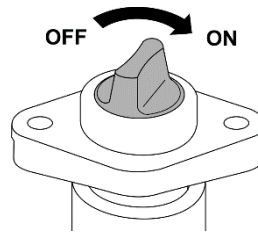

FIGURE 4.22 Main switch of control panel
- To switch on power supply of control panel, turn main switch (FIGURE 4.22) clockwise to (ON) position - switched on (the switch is installed on the control panel power lead).